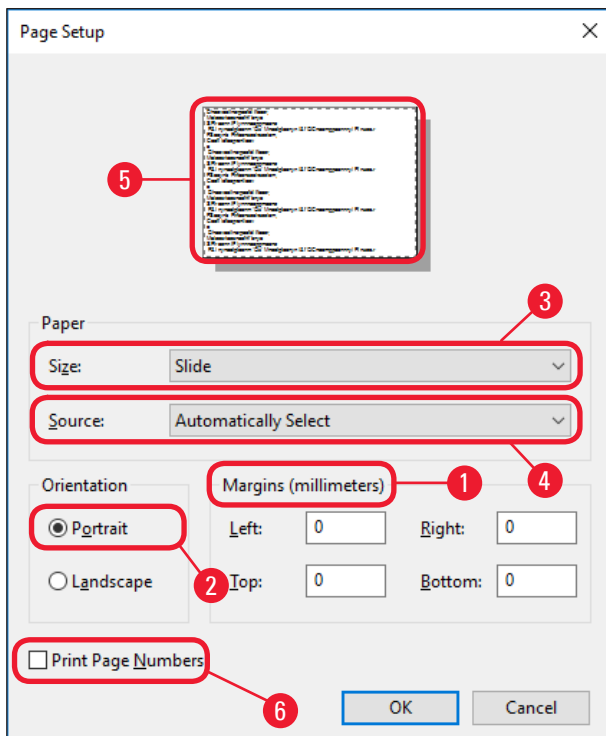

Fig. 41
3. First, the page settings must be selected: Click on **File > Page Setup** to open the **Page Setup** dialog box (→ "Fig. 41").